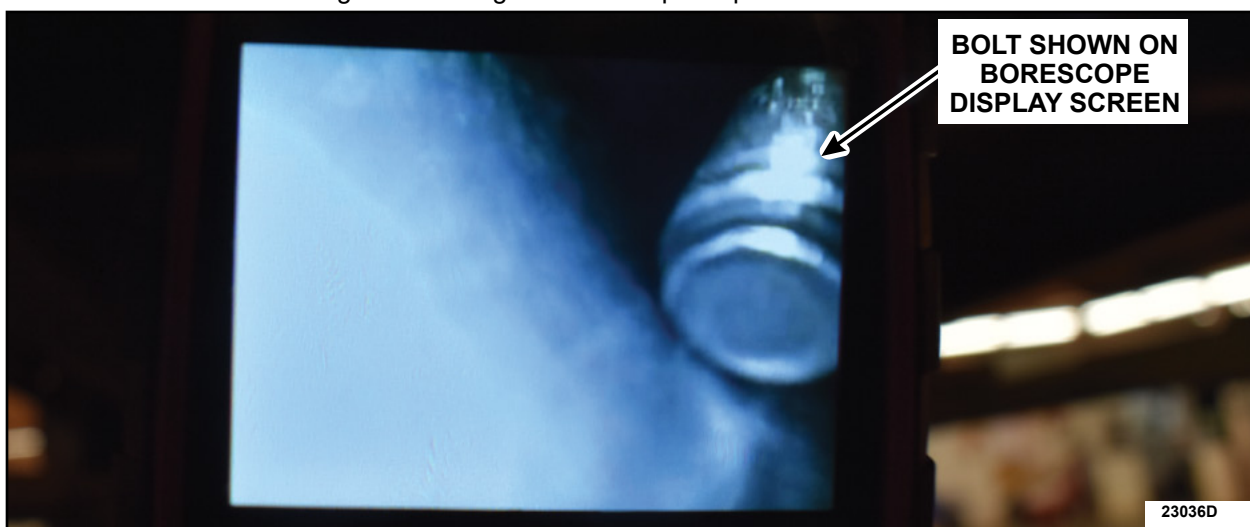

FIGURE 8
8. While watching the borescope display screen for a bolt, slowly remove the borescope camera cable. See Figure 8. Was a bolt found using the borescope?